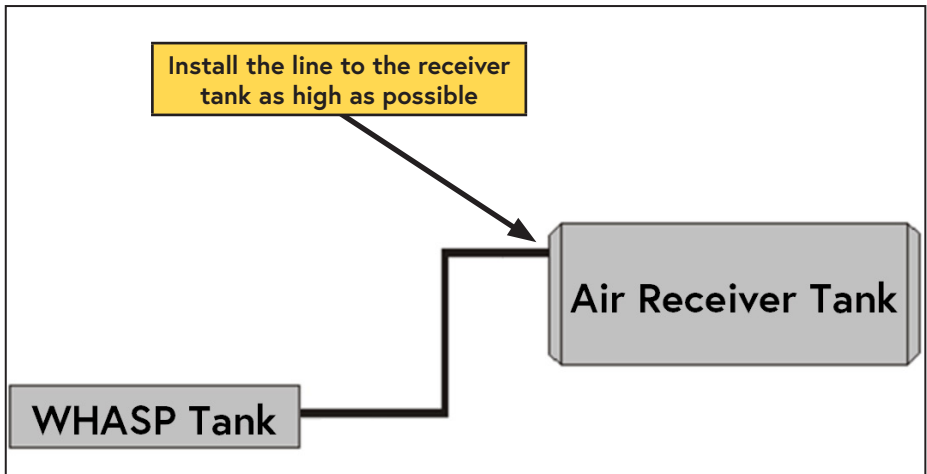

Figure 46 — Air receiver tank
- Remove the cover from the WHASP Tank pressure switch and connect the 2 ring terminals from the control module to the pressure switch on the WHASP Tank (not polarity dependent) (Figure 46).
While the air receiver tank can be installed at any height in relation to the WHASP, the discharge hose running from the WHASP must be installed as high as possible on the air receiver tank to prevent problems with condensation that may have accumulated in the receiver tank (Figure 46).